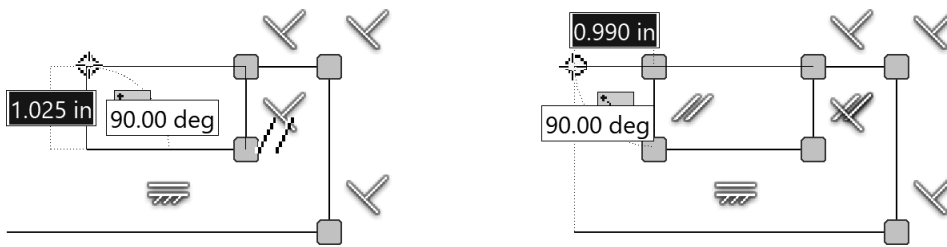

Figure 2.31
- 9** Move the cursor up and notice the perpendicular constraint symbol is displayed; to apply a parallel constraint instead, move (scrub) the cursor over the inside vertical line to create a relationship to it. Click when an *inferred line* (horizontal dotted line) appears from the top point as shown in Figure 2.31 left.
- 10** Move the cursor to the left until an inferred vertical line appears from the bottom-left point as shown in Figure 2.31 right and then click to locate the point.